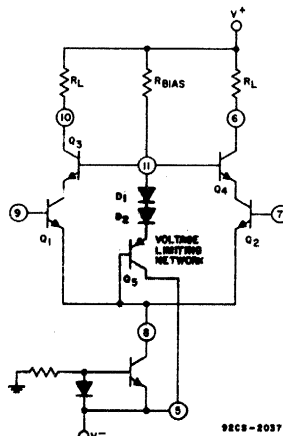

Fig.27—Bias arrangement for operation of the super-beta differential cascode amplifier.
* SEE FIG. 27
An internal voltage-limiting network (diodes D1, D2 and p-n-p transistor Q5) incorporated in the differential cascode amplifier, assures that the applied collector-to-emitter voltage of each super-beta unit is maintained below two volts. Fig. 27 shows a typical bias arrangement of the super-beta differential cascode amplifier.